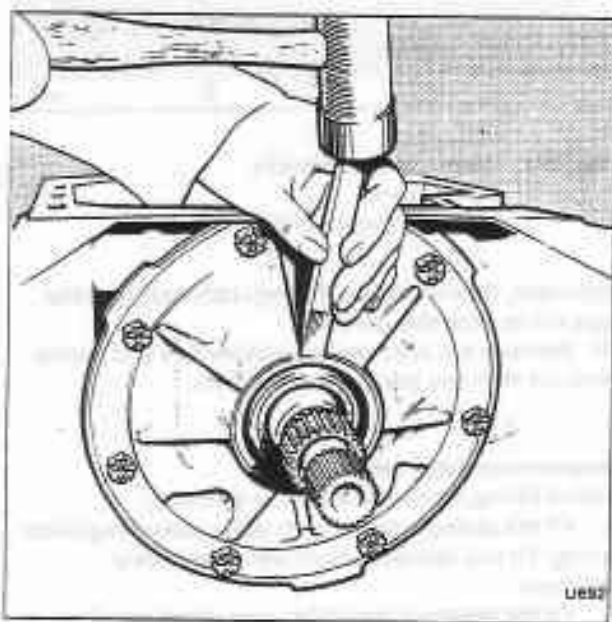

Fig. T5-4 Removing the oil pump seal
2. Carefully drive the point of a chisel under the lip of the seal then prise the seal out of the pump body (see fig. T5-4).